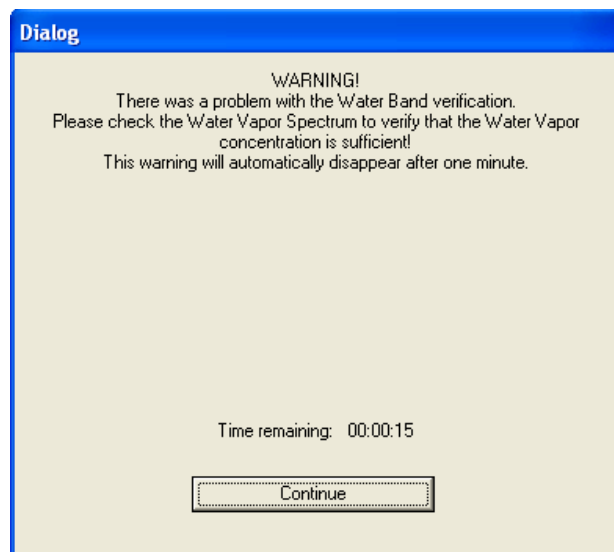

Figure 45: Warning Message regarding the Water Vapor Concentration
- If the warning message shown in figure 45 appears, it is highly recommended to check whether the current water vapor spectrum (with the following file name, for example: *PQ_Tensor_37_External_Port_D316-025_Hyperion_WnAccuracy.x*) is OK. You will find the spectrum in the following directory: